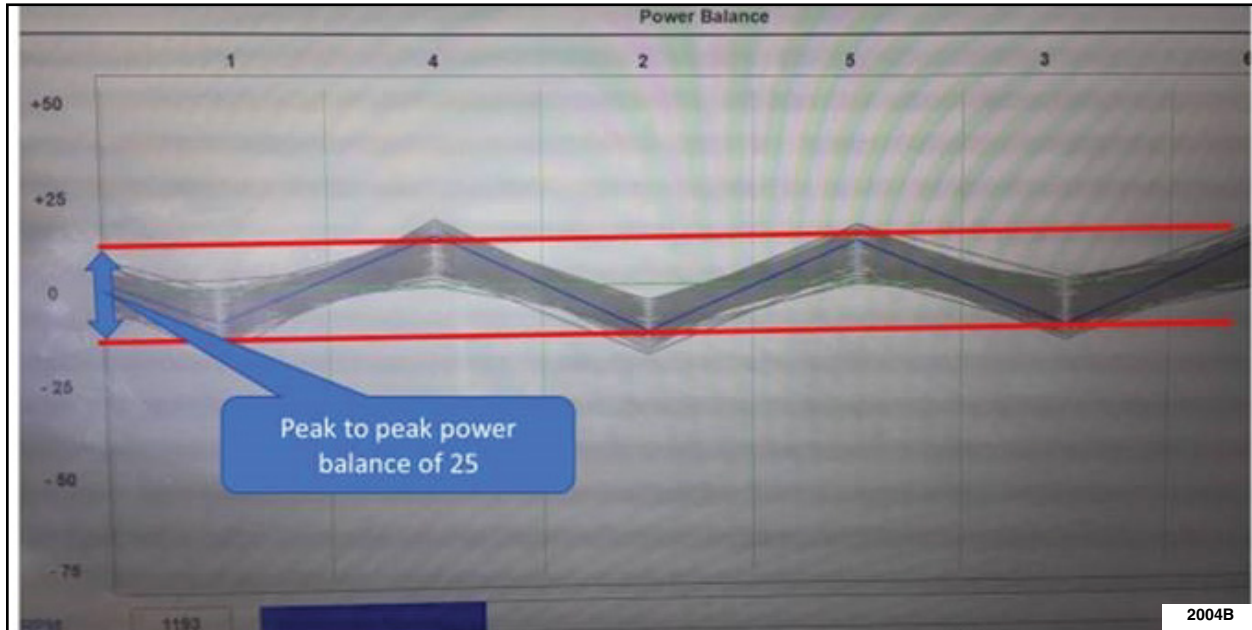

FIGURE 1
8. Was a shudder noticed? See Figure 1.